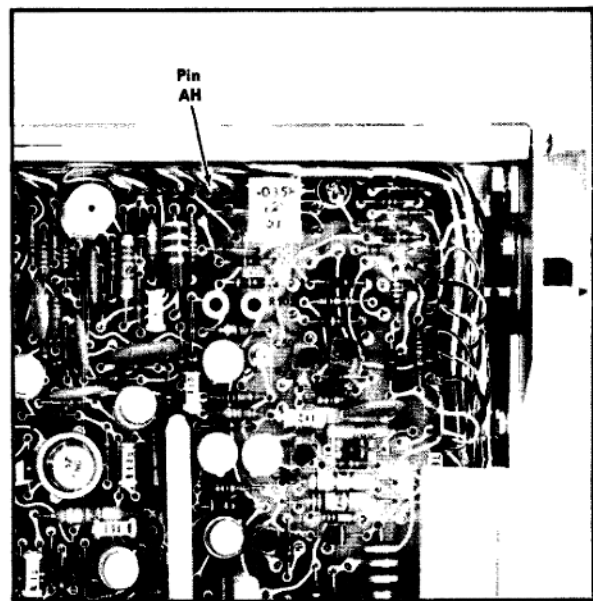

Fig. 6-30. Location of pin connector AH on Time-Base Board.
b. Connect the 10 \times probe tip to pin connector AH on the Time-Base Board (see Fig. 6-30).